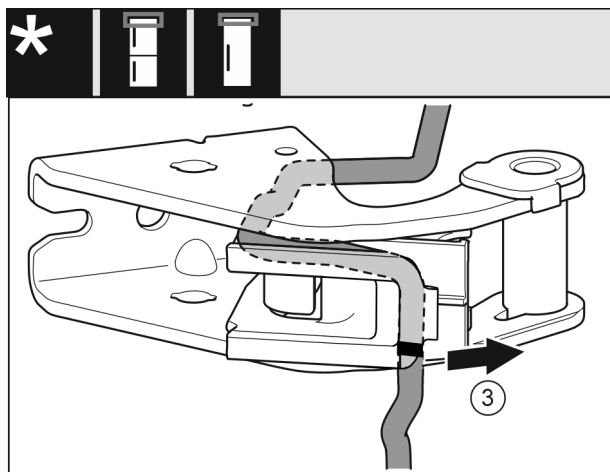

Fig. 27
- Remove the cable with the cable bracket Fig. 27 (3) from the swap bearing block.